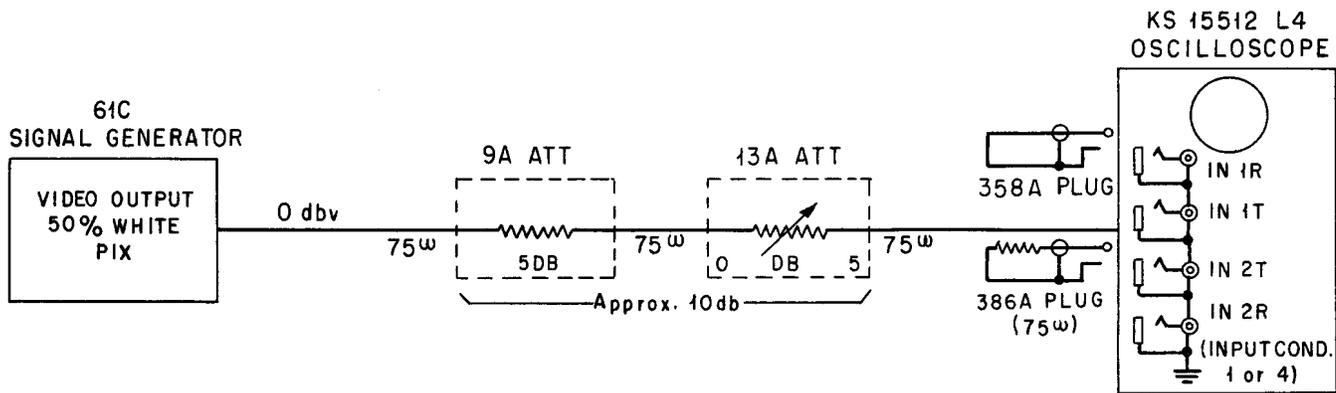

Fig. 9 – Linearity Check
- (a) Set up Input Condition 1 or 4 (Paragraph 1.07) with the BANDWIDTH switch in the WIDE position, and the test equipment arranged to conform with the arrangement illustrated in Fig. 9 to supply a video signal with a 50% white picture as shown in Fig. 4.